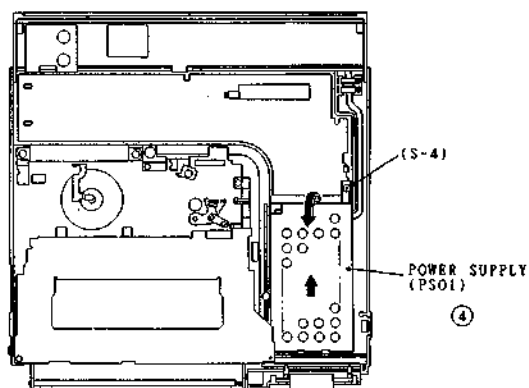

Fig. 15
- Remove the fixing screw (Fig. 15).